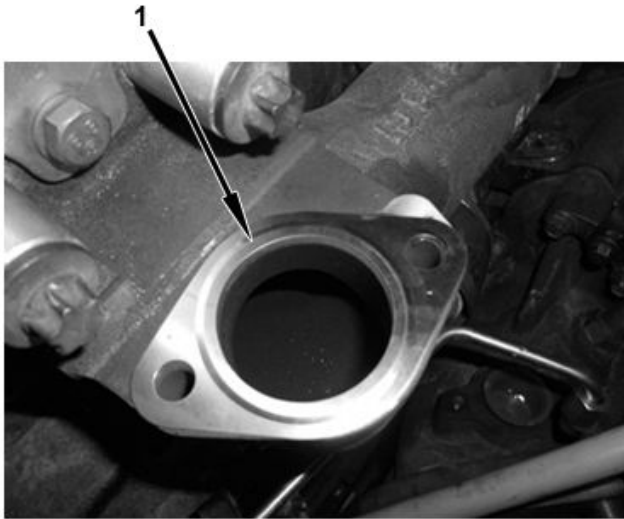

Figure 27. Rear Exhaust Manifold Outlet Gasket.
6. Remove cap from rear exhaust manifold outlet and install gasket (Figure 27, Item 1).